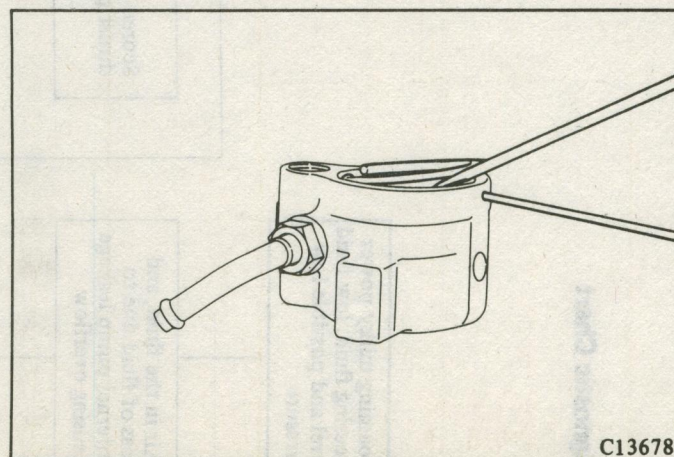

Fig. 96 Removing the End Plate Retaining Ring
- (4) Remove the end plate retaining ring by inserting a small punch in the 3 mm (.13 in.) diameter hole in the housing side opposite the flow control valve hole. Compress the retaining ring with the punch and remove by inserting a screwdriver under the ring and twisting the screwdriver. (Fig. 96)